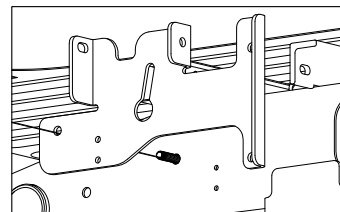
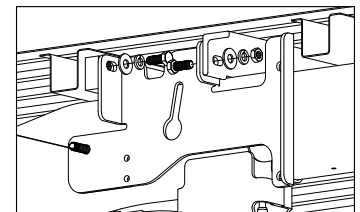

FIGURE C5: View from outside of Driver Side Frame.
FIGURE C6: View from outside of Driver Side Frame.
- 3. Install the sideplates.** Next, while the fish wire is still attached to the carriage bolt, thread the length of the fish wire through the mounting hole on the sideplate, see figure C5. Next attach the sideplate to the front and rear crossmembers using 1/2" hardware as shown in figure C6.